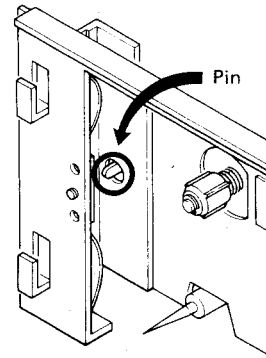

Fig. 4-9
1. Press and hold in the cassette-load pin (shown in Fig. 4-9) and place the deck in play mode with no tape loaded.